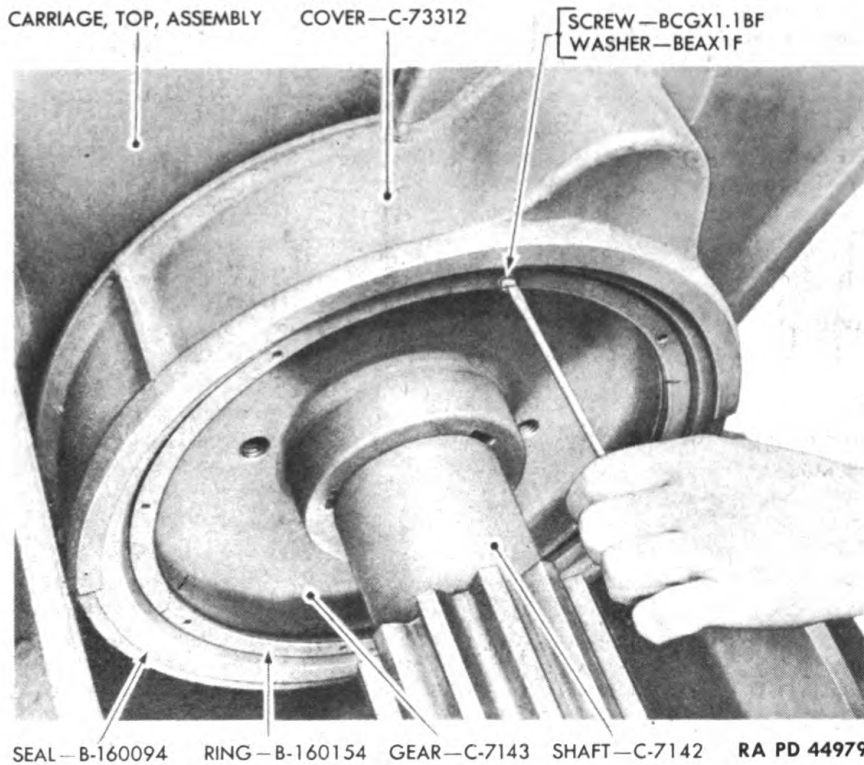

Figure 168—Removing Ring from Elevating Gear Cover
(4) Remove eight screws BCGX1.1BF and washers BEAX1F from ring B160154 (fig. 168). Slide ring back over pinion on shaft. Remove seal B160094 and slide it back over pinion.